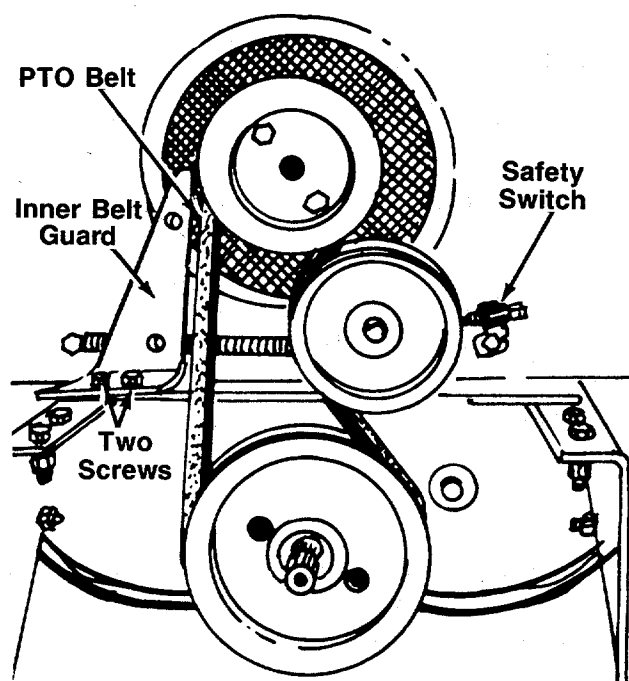

FIGURE 28.
3. Loosen two screws on inner belt guard. See figure 28.
NOTE: Figure 28 is shown with grille removed for clarity.